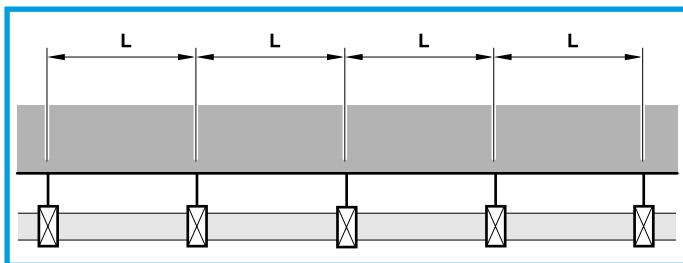

Figure 3 – Free installation
- For straight pipelines, provide solid collars acting as fixed points at the same time (Figure 3). In this way, overall expansion will be split over several smaller stretches along the whole space between fixings. The collars will be submitted to two equal and opposed stress forces, cancelling one another out. Free expansion will only occur in the final stretch.